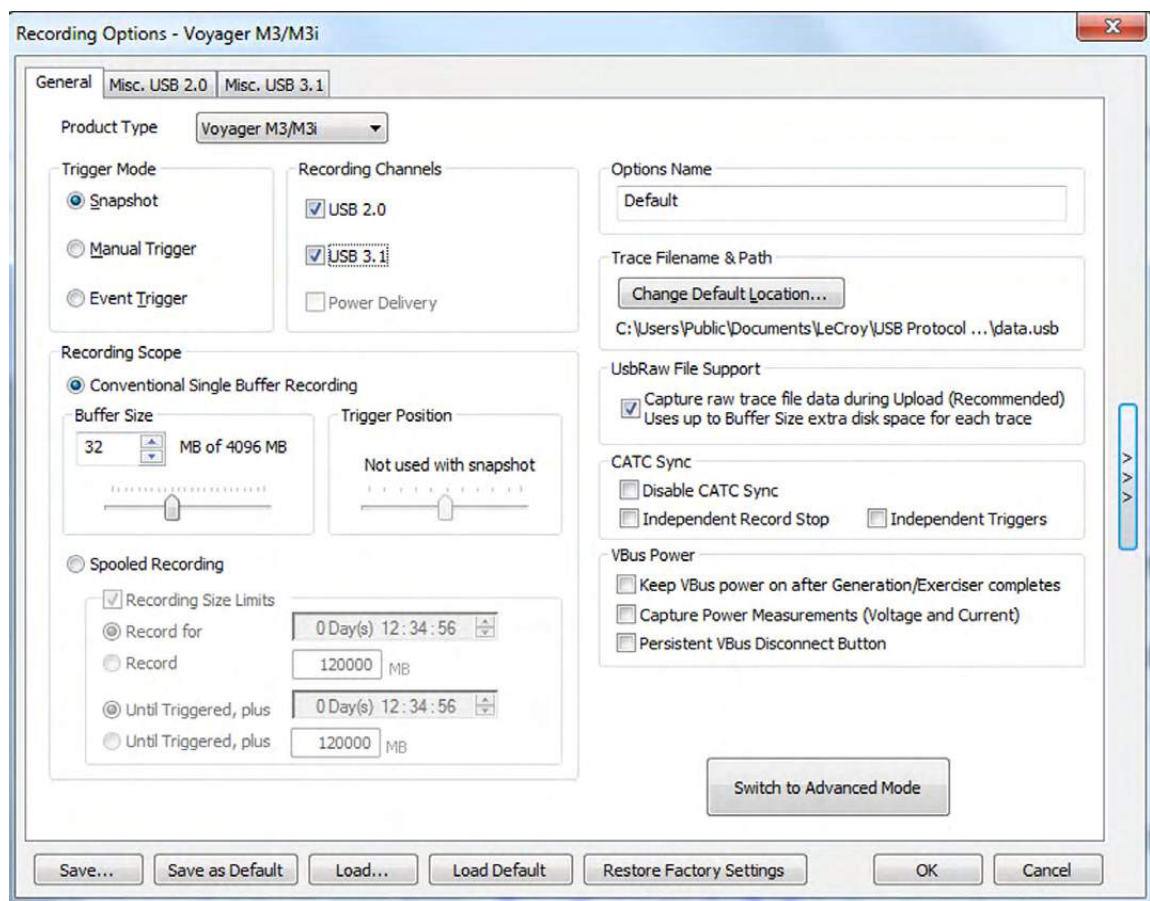

Figure 3.49: Recording Options - Voyager Dialog.
3. Select the **General** tab to display a dialog box showing factory default settings, such as Snapshot and 4 MB buffer size (see Figure 3.49 on page 144). For the first recording, you can leave these settings unchanged. Under Recording Channels, select **2.0** to record USB 2.0 traffic.